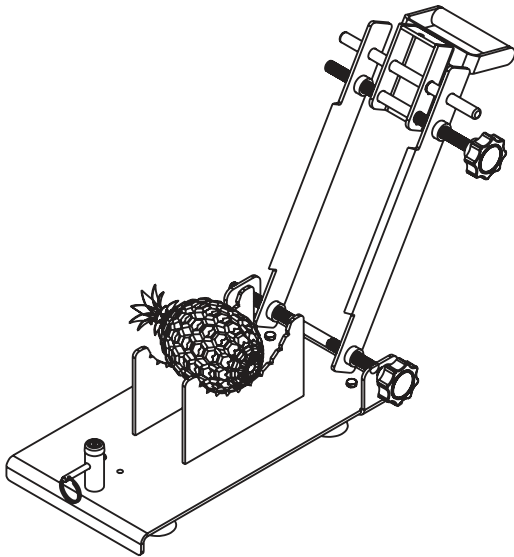

Figure 3
- Place the pineapple horizontal position shown in (Figure 3)